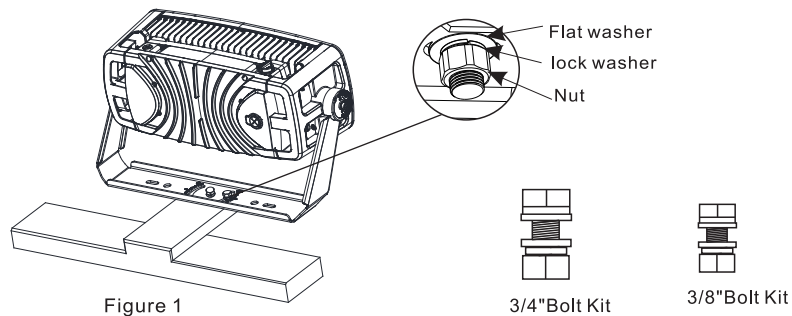

Figure 1
- (1) 3/8" aiming lock bolt/nut, flat washers & lock washer kit. (Figure 1)